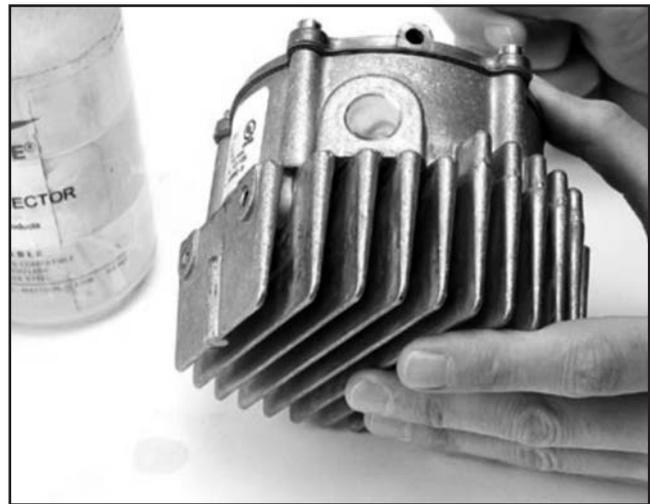

Figure 3-30. Check Outlet Port
18. Draw a bubble of leak detector over the "OUTLET" port. The bubble should hold for several seconds with the regulator inlet pressurized. Return to step 10 if the bubble doesn't hold for several seconds. See Figure 3-30.